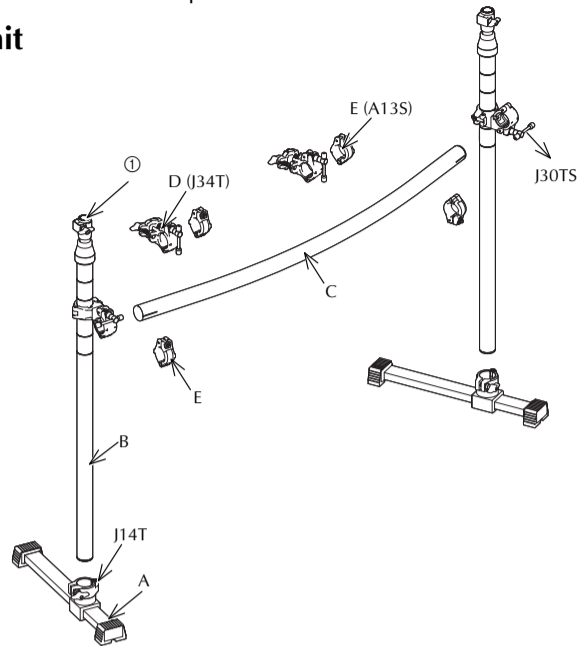

Fig. 1
- Assemble the vertical and horizontal pipes using the same procedure as for the basic unit. The vertical pipe of additional units were pre-assembled on the assumption that they will be attached to the right side (seen from the drum throne) of the basic unit (as shown in fig. 1). If you want to add it to the left side of the basic unit, remove J30TS on the vertical pipe unit. Then, re-attach it to the left vertical pipe of the basic unit.